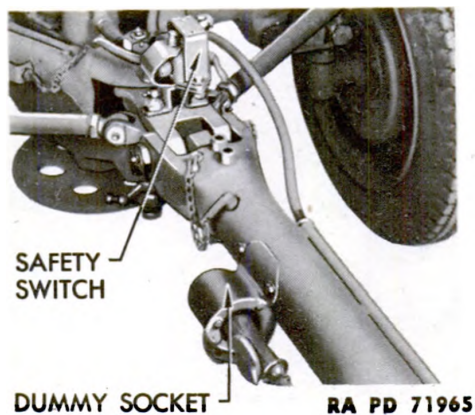
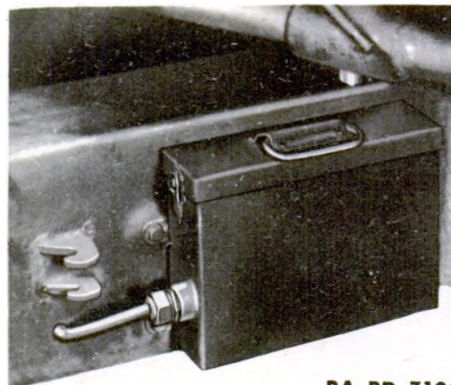

Figure 69 – Safety Switch and Dummy Socket
Figure 70 – Battery Container Box on Front Girder
(1) The safety switch (fig. 69) automatically applies the electric brakes on the carriage wheels in the event of a break-in-two between the carriage and the prime mover. The switch has a lever which is normally in the “off” or backward position; it can be pulled forward to the “on” position.
(2) On carriages of earlier manufacture, the safety switch, together with the dummy socket for the jumper cable, is located on a bracket mounted on the steering drawbar link. On carriages of later manufacture and those so modified, the safety switch is mounted on the steering drawbar link but the dummy socket for the jumper cable is mounted on the side of the drawbar.
(3) The battery container box (fig. 70) is mounted near the center chassis frame base on the left side of the front chassis frame girder. It contains a dry cell battery to supply current to actuate the brakes through the safety switch in case of a break-in-two.